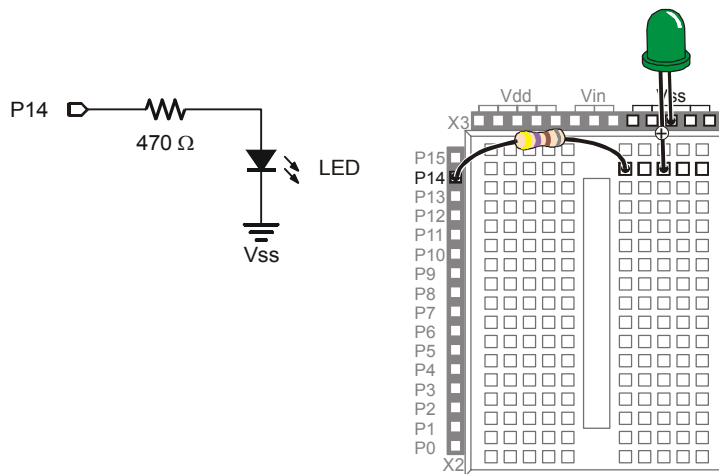

Figure 2-12
The LED circuit shown in Figure 2-12 is wired almost the same as the circuit in the previous exercise. The difference is that the resistor's lead that was manually switched between Vdd and Vss is now plugged into a BASIC Stamp I/O pin.
- ✓ Modify the circuit you were working with in Activity #1 so that it matches Figure 2-12.
Use the example circuit shown in Figure 2-12 on page 48.